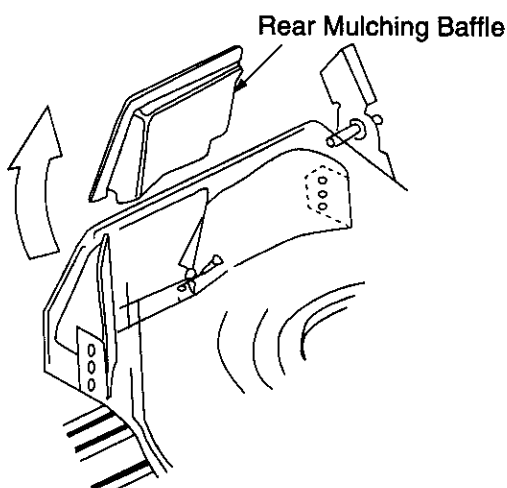

FIGURE 5
- Lift the rear discharge door and remove the rear mulching baffle from the mower. See Figure 5.